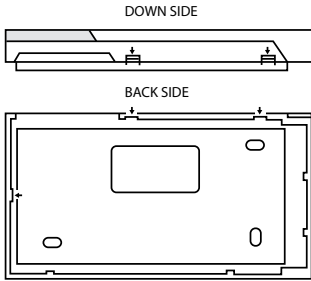

Fig. No. 18
1. Detach keyboard holder from EKB3 keyboard . Keyboard holder detach points are marked with arrows (see Fig. No. 18).
6. Infix the keyboard into the holder (see Fig. No. 18).